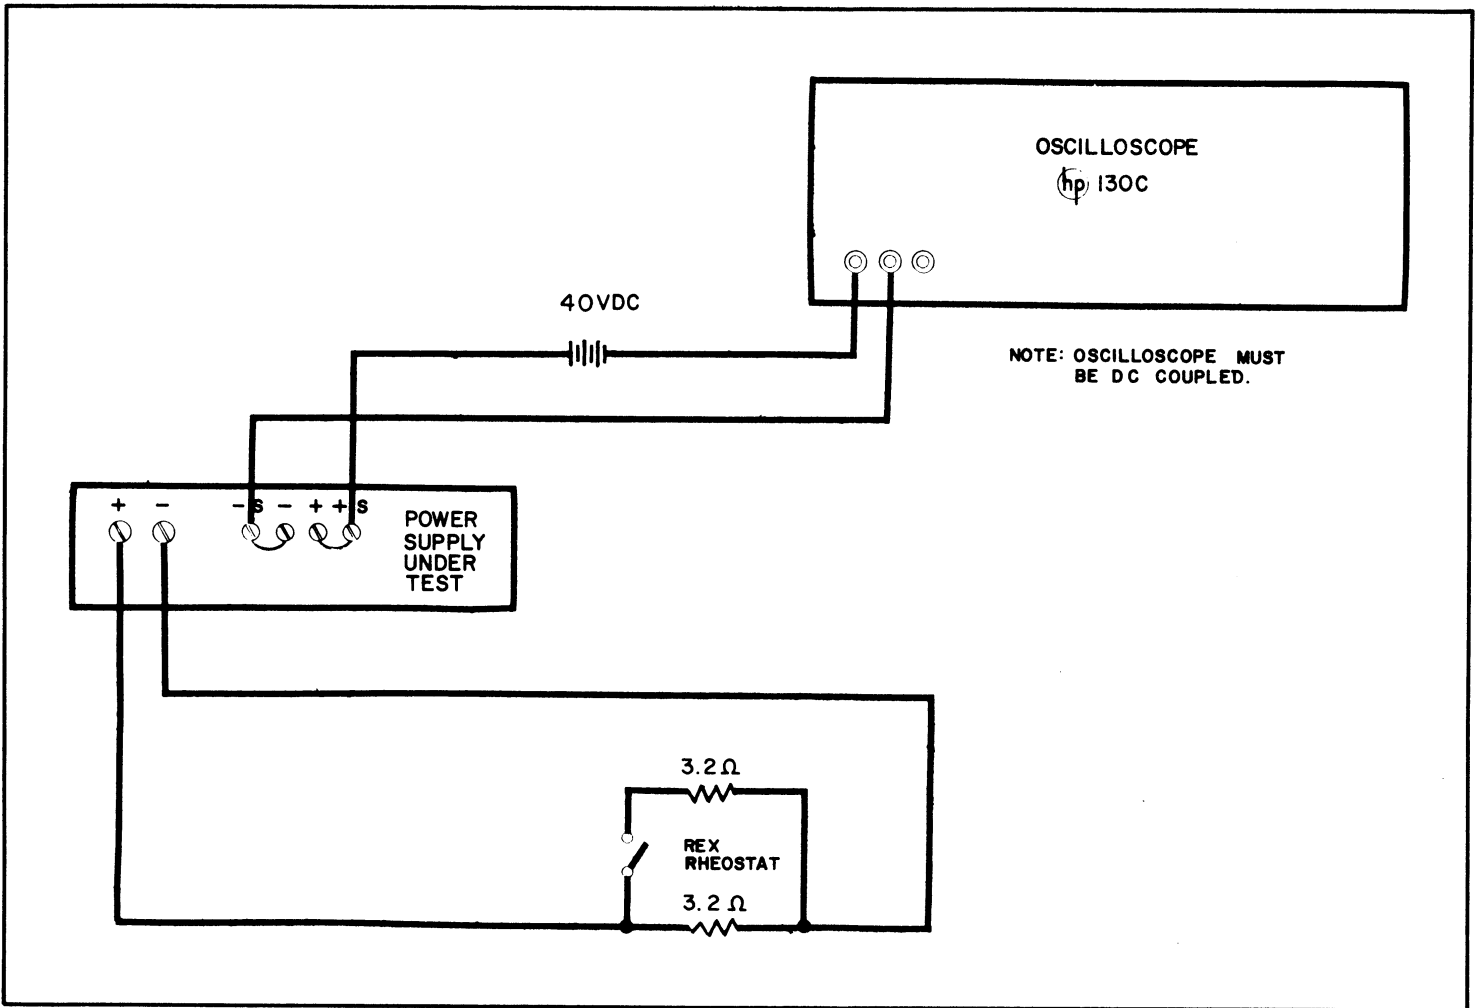

Figure 5-4. Transient Recovery Time, Test Setup
- a. Connect test setup shown in Figure 5-4.